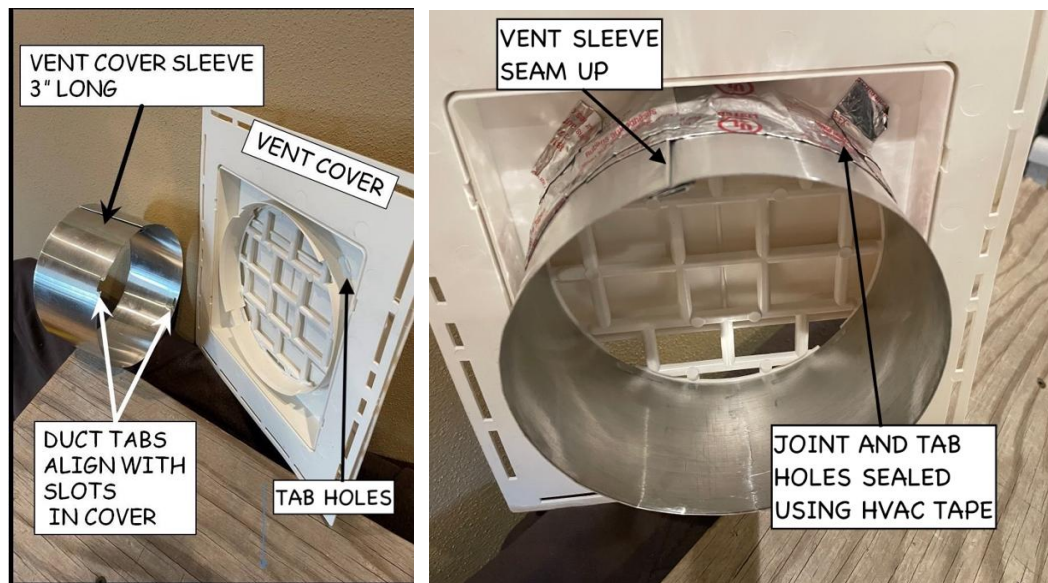

Figure 10-2 – Range Vent Cover Sleeve Assembly
3. Insert the tabbed end of the vent cover sleeve into the vent cover. Ensure the seam in the vent cover sleeve is positioned towards the top of the vent cover, so that it will eventually be installed on the top side of the horizontally-positioned sleeve. Cut three 4" length strips of HVAC tape and then cut these in half lengthwise. Use five of these strips to cover the circumference of the sleeve-cover connection with $\frac{1}{2}$ " overlap. Cover the four tab holes with the remaining piece of tape, cut into four pieces, or fill with caulk (see Figure 10-2 as an example).
3. Insert the tabbed end of the vent cover sleeve into the vent cover. Ensure the seam in the vent cover sleeve is positioned towards the top of the vent cover, so that it will eventually be installed on the top side of the horizontally-positioned sleeve. Cut three 4" length strips of HVAC tape and then cut these in half lengthwise. Use five of these strips to cover the circumference of the sleeve-cover connection with 1/2" overlap. Cover the four tab holes with the remaining piece of tape, cut into four pieces, or fill with caulk (see Figure 10-2 as an example).
7. Insert the tabbed end of the vent cover sleeve into the vent cover. Ensure the seam in the vent cover sleeve is positioned towards the top of the vent cover, so that it will eventually be installed on the top side of the horizontally-positioned sleeve. Cut three 4" length strips of HVAC tape and then cut these in half lengthwise. Use five of these strips to cover the circumference of the sleeve-cover connection with $\frac{1}{2}$ " overlap. Cover the four tab holes with the remaining piece of tape, cut into four pieces, or fill with caulk (see Figure 10-2).